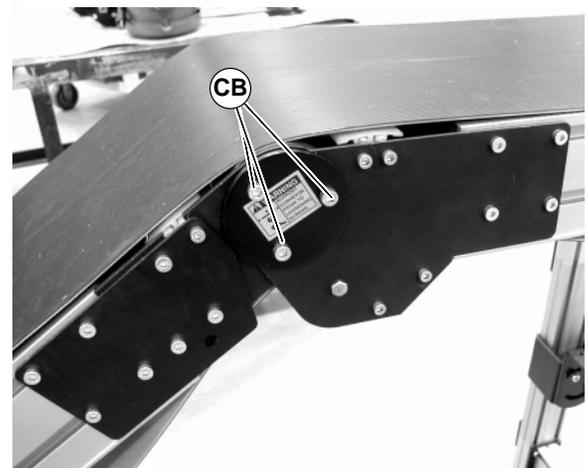

Figure 53
2. Loosen screws (CB of Figure 53) on both sides of knuckle.
4. Tighten screws (CB of Figure 53) on both sides of knuckle to 100 in-lbs (12 N-m).